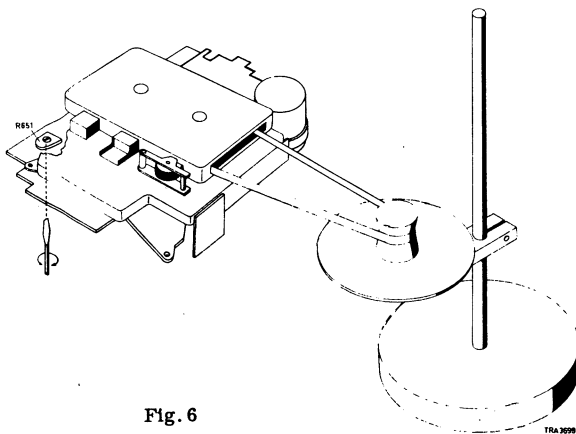

Fig. 6
2. With stroboscopic disc (Fig. 6)
Remove one of the sides of a cassette (by means of a knife and a file). Deburr the opening. Take out the tape via the opening. Place a stroboscopic disc (code number 4822 395 90001 for 50 Hz or 4822 395 90002 for 60 Hz) next to the set and connect as shown in Fig. 6.
If the speed is too low, check that there is not too much friction in the pressure roller, the winding friction, the flywheel, etc. After that, adjust the speed with R651 (see Fig. 6).